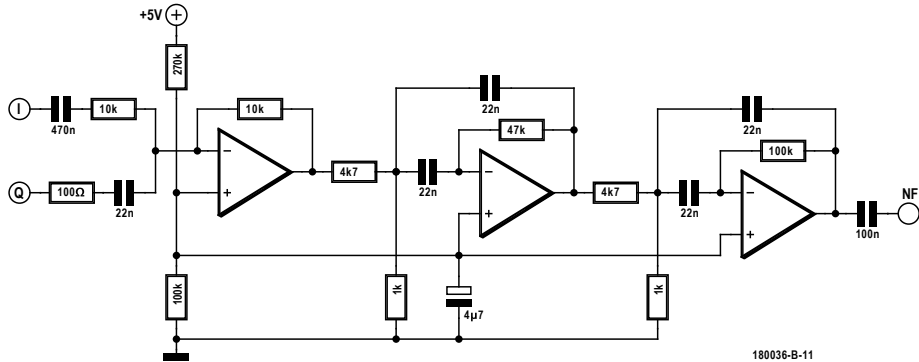

Figure 11. A bandpass filter with quadrature inputs.
For standalone operation of the receiver the signal processing software running on the PC must be replaced by a purely electronic solution. One approach is to use the bandpass filter with a centre frequency of 750 Hz shown in **Figure 11**. The circuit has separate in-phase (I) and quadrature (Q) inputs: first a relative phase shift of 90 ° at 750 Hz is applied to these signals, and then they are added together. The result is passed through a two-stage 750 Hz bandpass filter. The design uses type LM348 dual opamps.